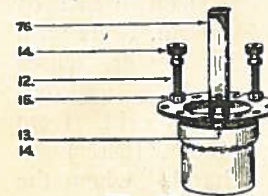

Fig. 21.
and (15) as shown, and secure a Mirror Clip (76) to the Mount by means of a 1/2in. Screwed Bolt (13) and a Terminal Nut (14). This is illustrated in Fig. 21, by studying which, the correct holes for the bolts can be easily selected.